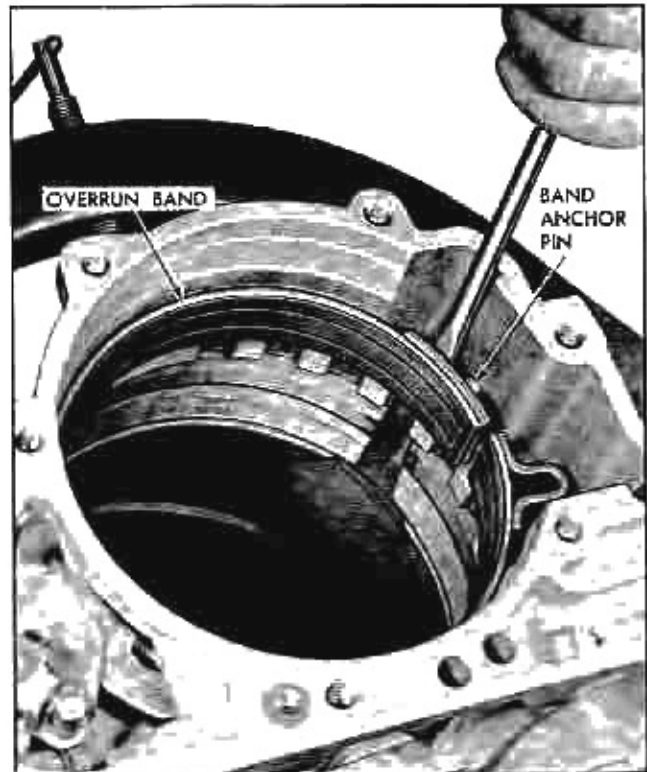

Fig. 64 Removing Overrun Band from Anchor Pin in Case
8. Remove the band assembly by unhooking from the anchor and lifting upward (Fig. 64).